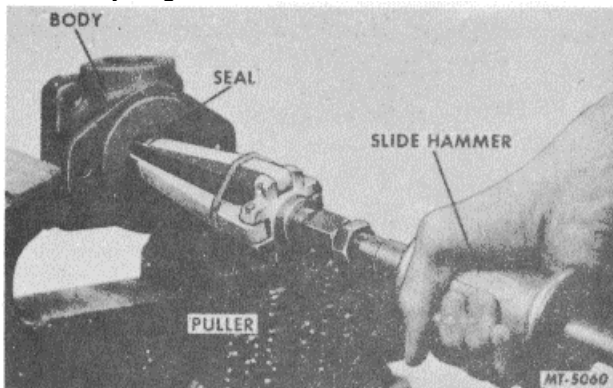

Fig. 15 Removing Shaft Seal Using Puller SE-1961.
11. Using puller SE-1961 remove shaft seal from body, Fig. 15.